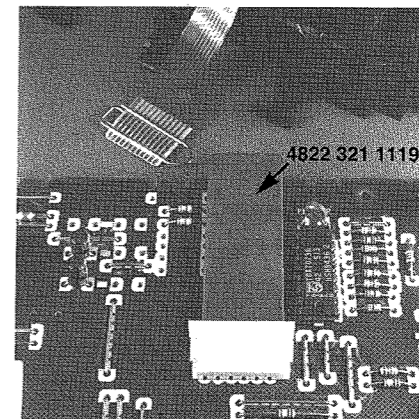

fig.2
3. Short-circuit printed board with **brass-sheet (4822 321 11197)** plugged into the flexfoil connector (fig.2)
ctor (fig.2)